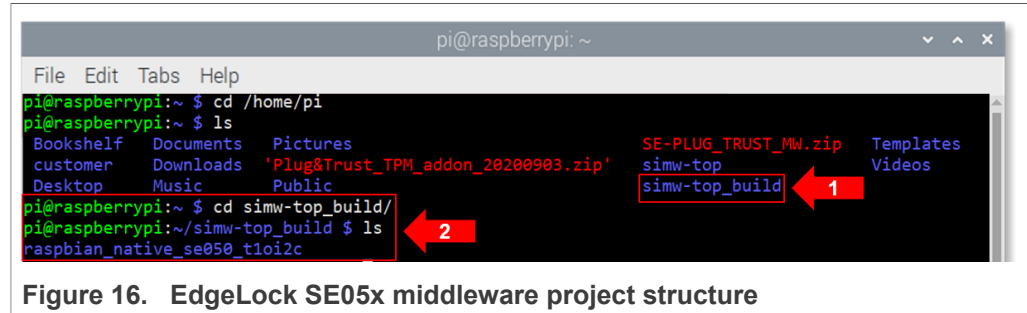

Figure 16. EdgeLock SE05x middleware project structure
- If the compilation is successful you should (1) see a new *simw-top_build* folder inside the */home/pi* folder and (2) a new folder inside the *simw-top_build* folder as shown in Figure 16: